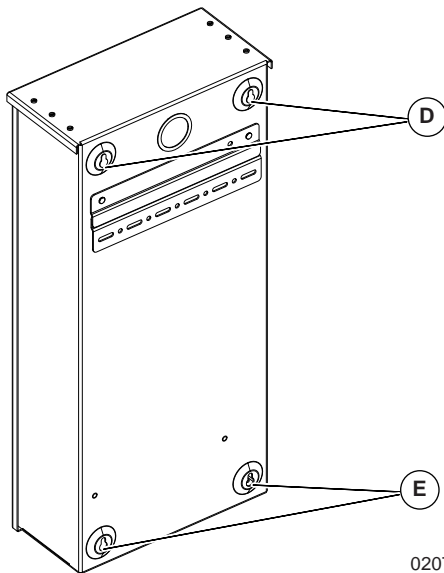

Figure 3-2. Mounting Transfer Switch without Utilizing Mounting Cleat
- See Figure 3-2. Remove top mounting key-holes (D).
- See Figure 3-2. Fasten transfer switch to supporting structure through mounting holes (D) and (E). Holes are spaced 10.5" (266.7mm) from each other. Use appropriate anchors or blocking as needed.